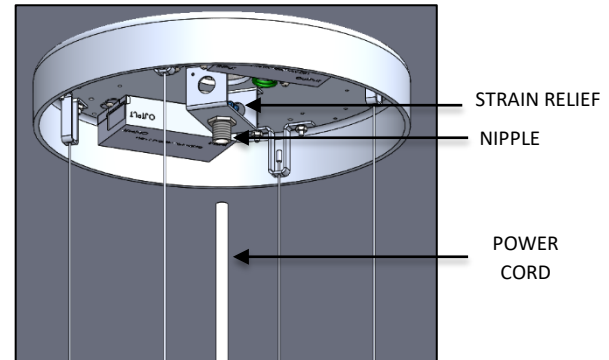

FIG. 25 – CORD CONNECTION TO
9. Feed POWER CORD through the NIPPLE (available in CANOPY ASSEMBLY) and secure at desired length with STRAIN RELIEF provided in CANOPY ASSEMBLY as shown in FIG 25.